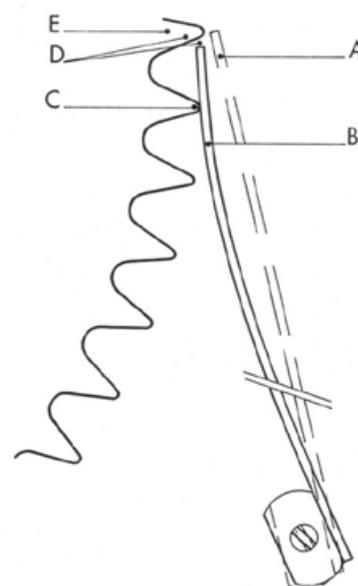

Fig. 5.3
3.43. Engage click (6) on retaining wheel (12). The tip of the blade must be at the top of a tooth, as close as possible, without touching it (position a, fig. 5.3.). If necessary, move retaining click plate No. 1310.9026 (13) by turning the eccentric of click bearing plate No. 1310.9029 (14).
3.44. Lock screw of retaining click plate. Check again the click position after having turned the stem according to fig. 5.3.